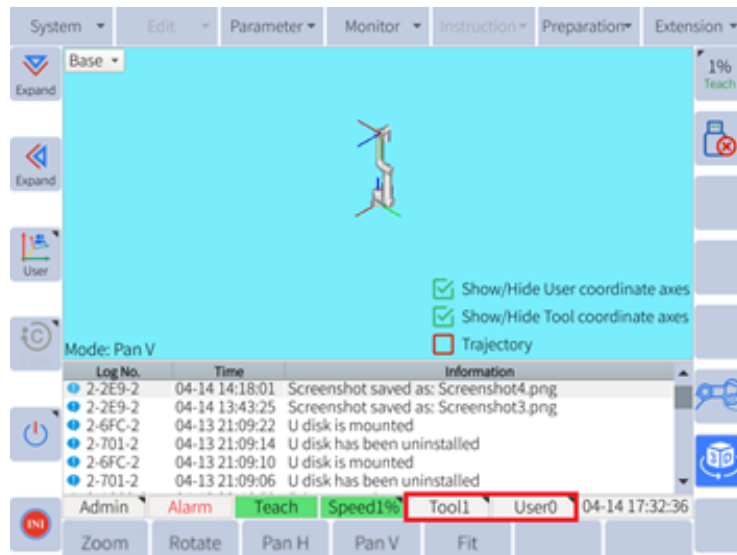

Figure 6-21: Tool and user
- Click “Tool” and “User” in the bottom menu to make changes in the user coordinate settings and tool coordinate settings, as shown in **Figure 6-21**: